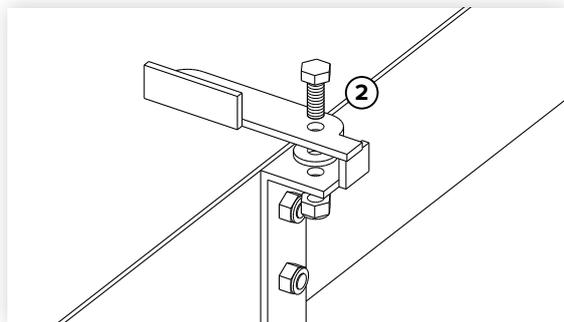

figure 3
3. Using fixings ② attach the latch to the latch bracket (figure 3).